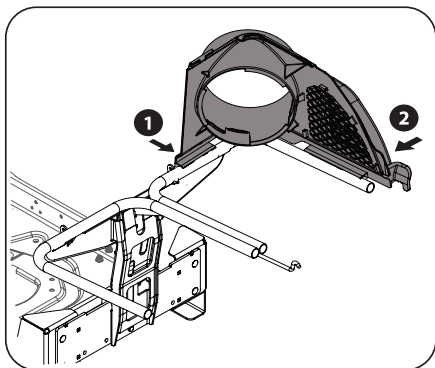

Figure 4-6
1. Tilt the front of the upper chute support (631-05491B) slightly forward. Slide the clip behind the tab, then snap the front latch to the rail, as shown in (1) of Figure 4-6.
2. Snap the upper chute support in place by first clipping the side portion onto the bagger support rail. See (2) in Figure 4-6.